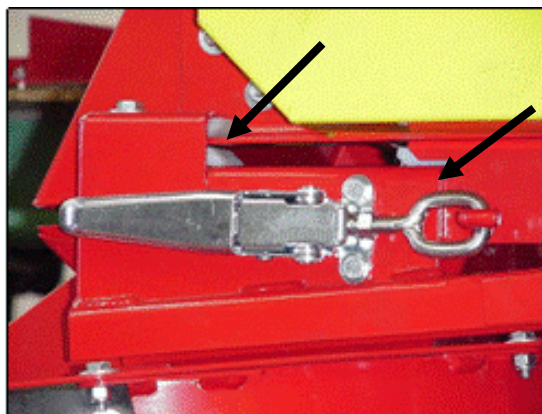

Figure 6: Locking clamps for Twin Spinner
5. Adjust the locking clamps until the clamps are just firm when closing (See Figure 6).